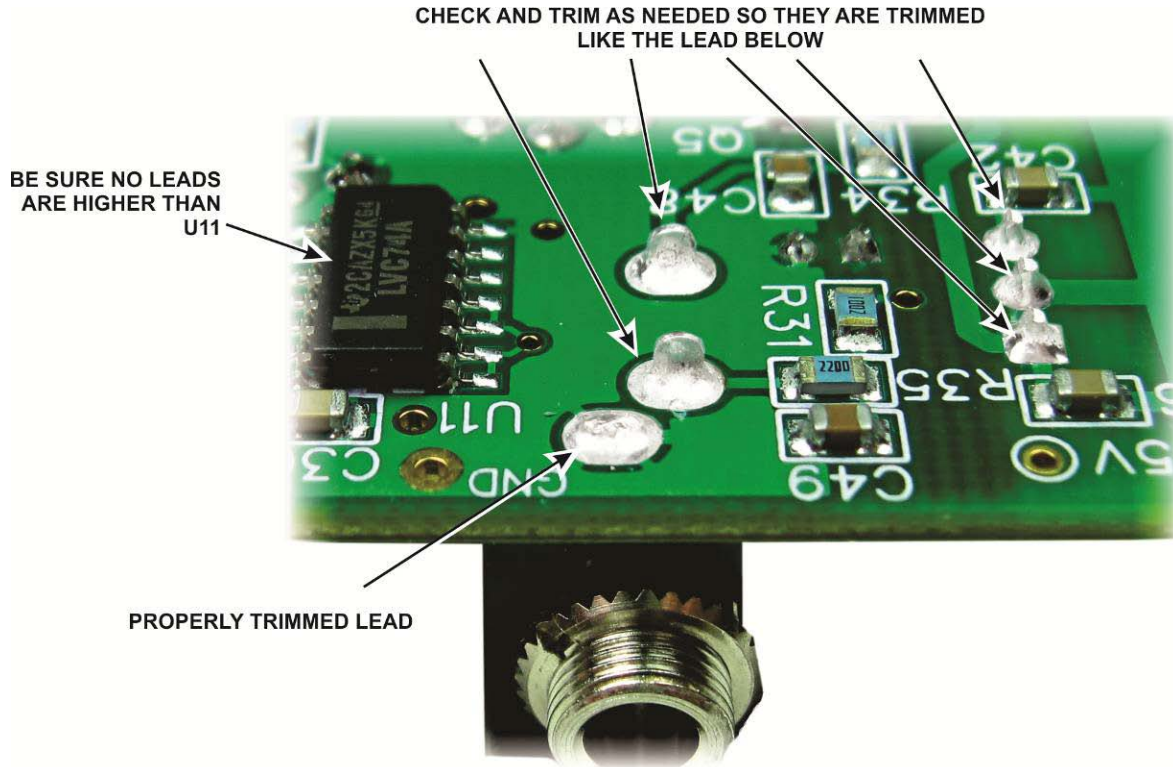

Figure 25. Checking and Trimming the Synthesizer Leads
□ Remove the KSYN3A board from its ESD protective packaging. Inspect the back of the board for long leads, especially those associated with the mini-connector and U8 near the top of the board. Carefully trim these leads flush with the board as shown in Figure 25.